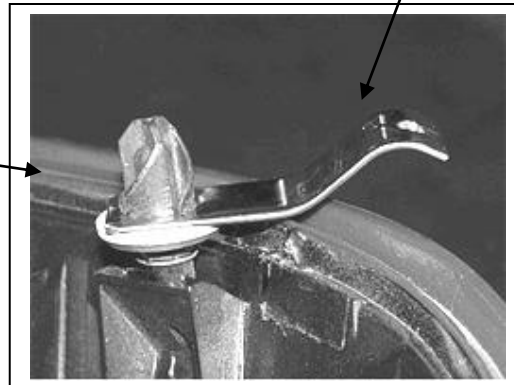

FIG. 3
- Position the taillight assembly snap-in fasteners back into position and push into place. Place the guard over the taillight and reinstall the two stock Phillips head screws through the guard through the bed and into the taillight assembly. Leave the screws loose for now. (Fig 3)